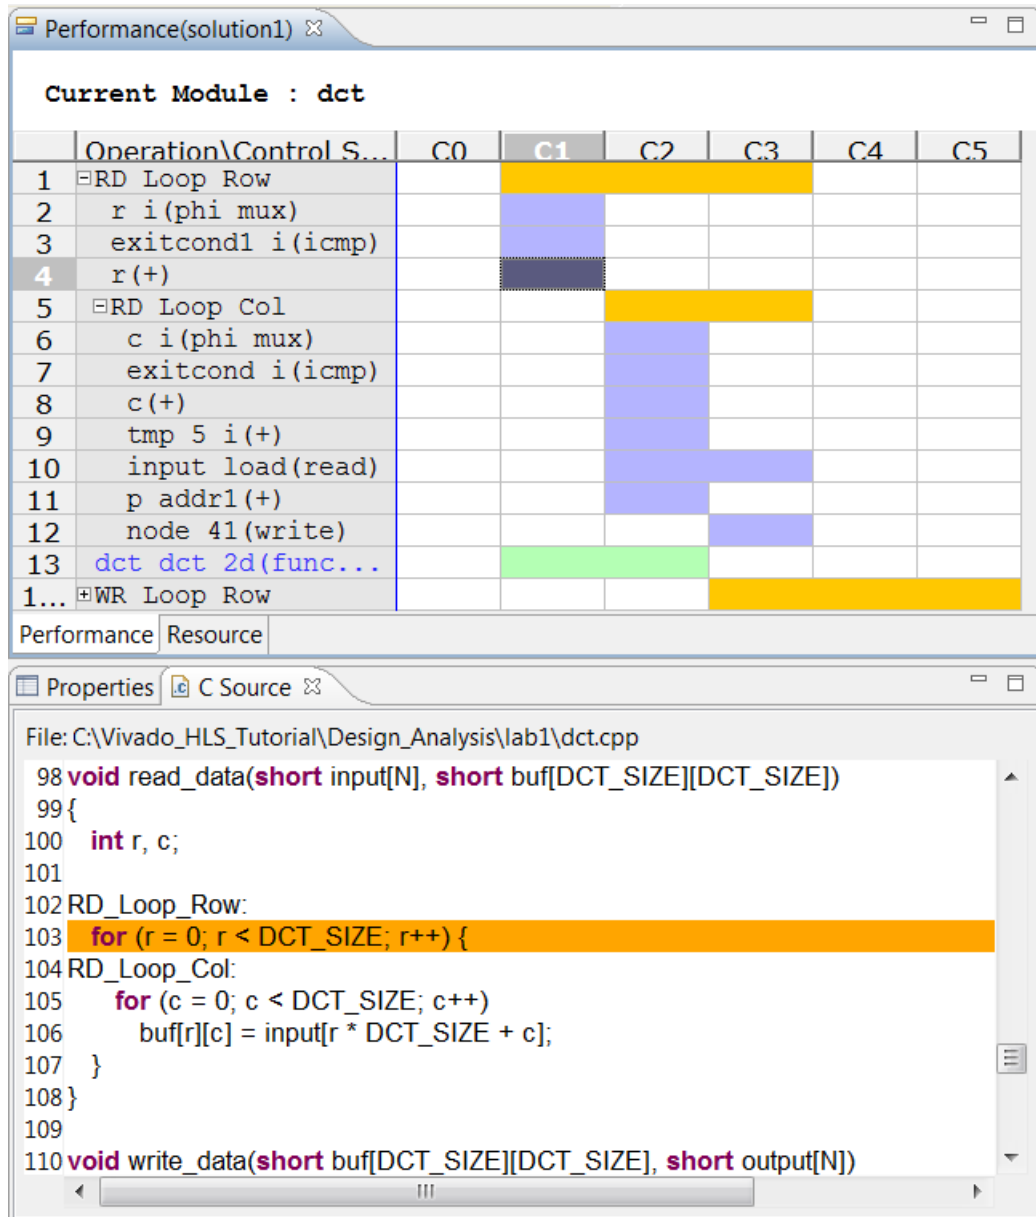

Figure 6-10: C Source Code View
3. Select the adder in state C1, right-click and select **Go to Source** (Figure 6-10).
- a. When the dialog box opens, press OK to select item 0.
This opens the C source code to highlight the operation in the C source that created this adder. From the details on screen (also shown in Figure 6-10), you can determine it is indeed the loop counter. It is the only addition on this line, and the variable is named "r".